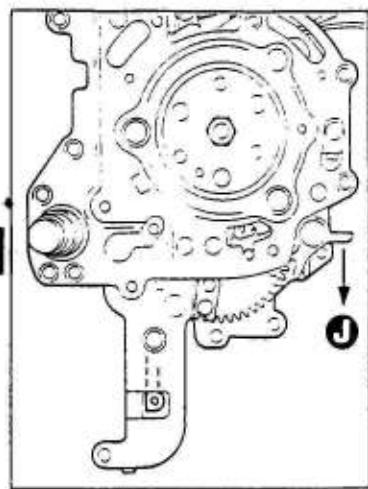

Fig.9
3. Push the lever ①, and release wind-up. (See Fig. 9.)